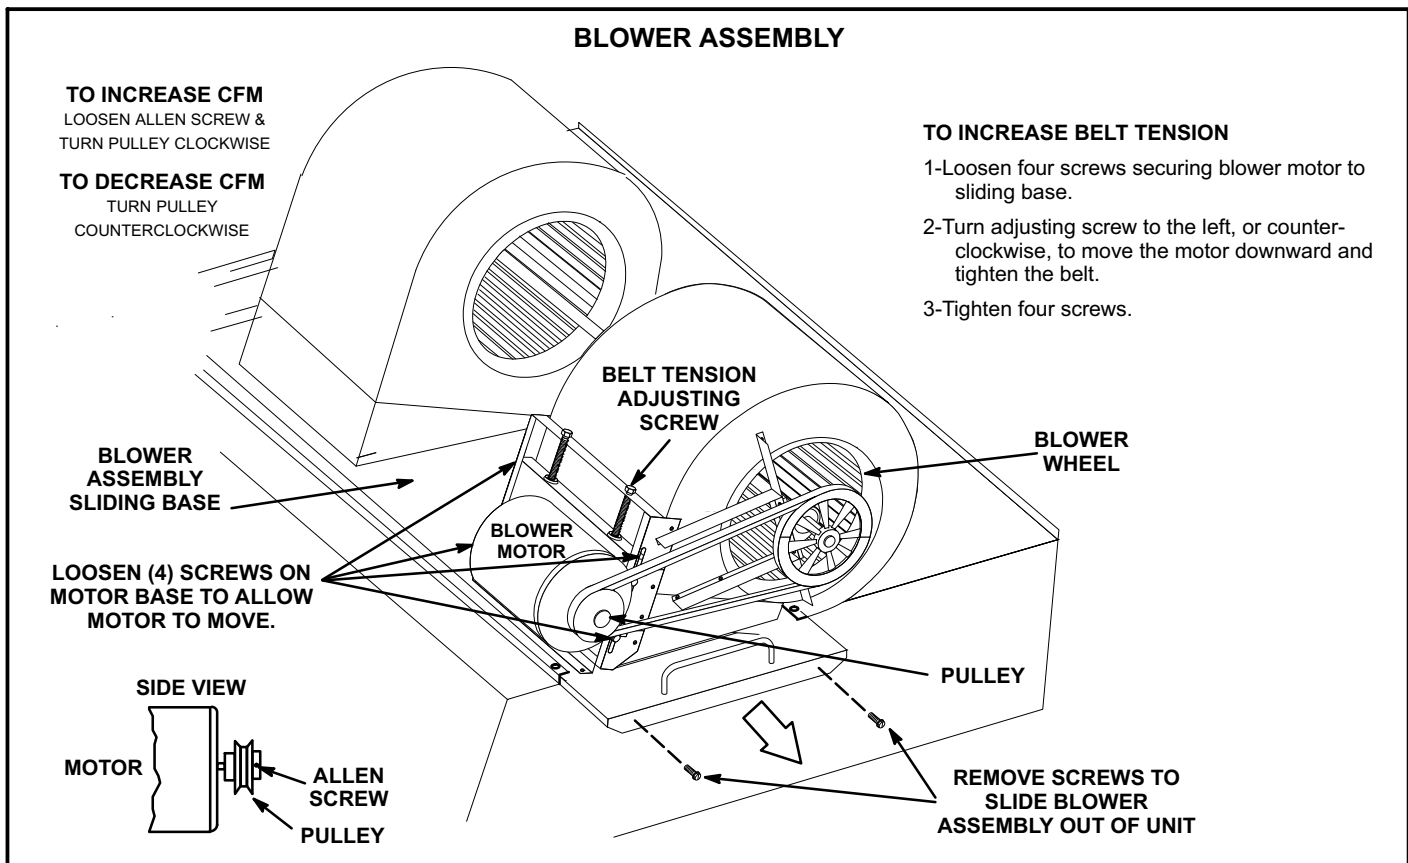

FIGURE 8
The blower compartment in KCB180-300S units is located between the evaporator coil and the compressor / control section on the opposite side of the condenser coil. The blower assembly is accessed by removing the screws on either side of the sliding base. The base pulls out as shown in figure 8.
The blower assembly is secured to a sliding base which allows the entire assembly to be pulled out of the unit. See figure 8.
- 5- The RPM can be adjusted at the motor pulley. Loosen Allen screw and turn adjustable pulley clockwise to increase RPM. Turn counterclockwise to decrease RPM. See figure 8.
1- Loosen four bolts securing motor base to mounting frame. See figure 8.